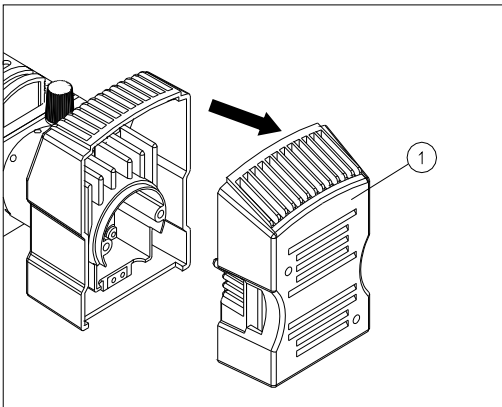
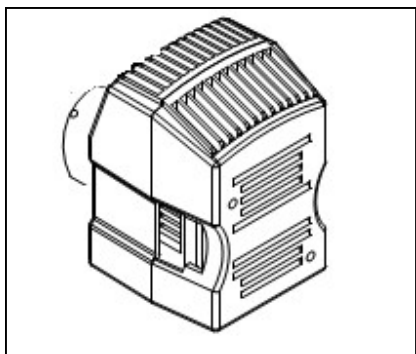

Fig.4
Fig.7
### (Fig.4-Fig.7)
1. Pull out the lamp house① as shown in fig.4